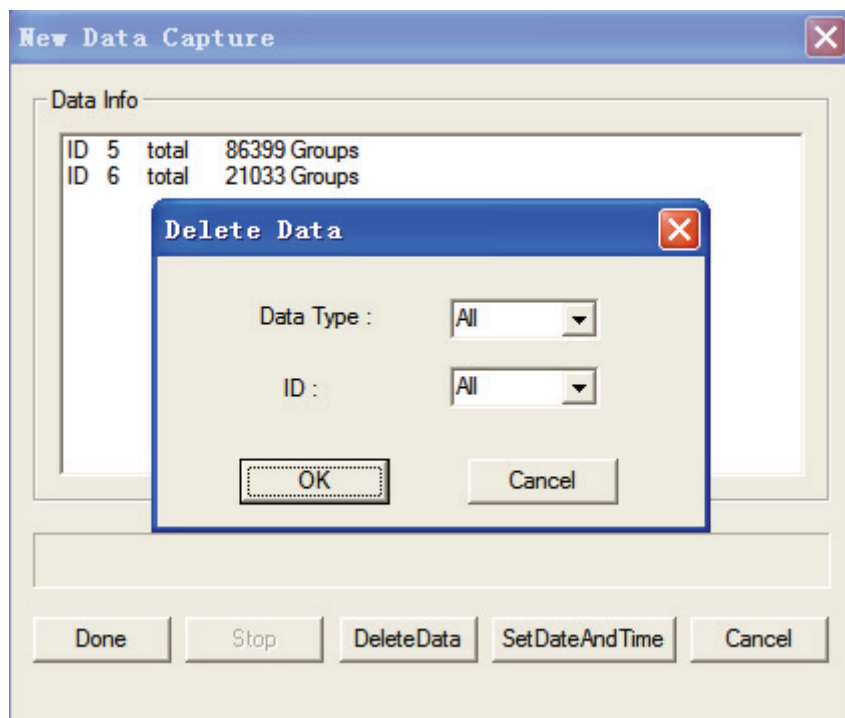
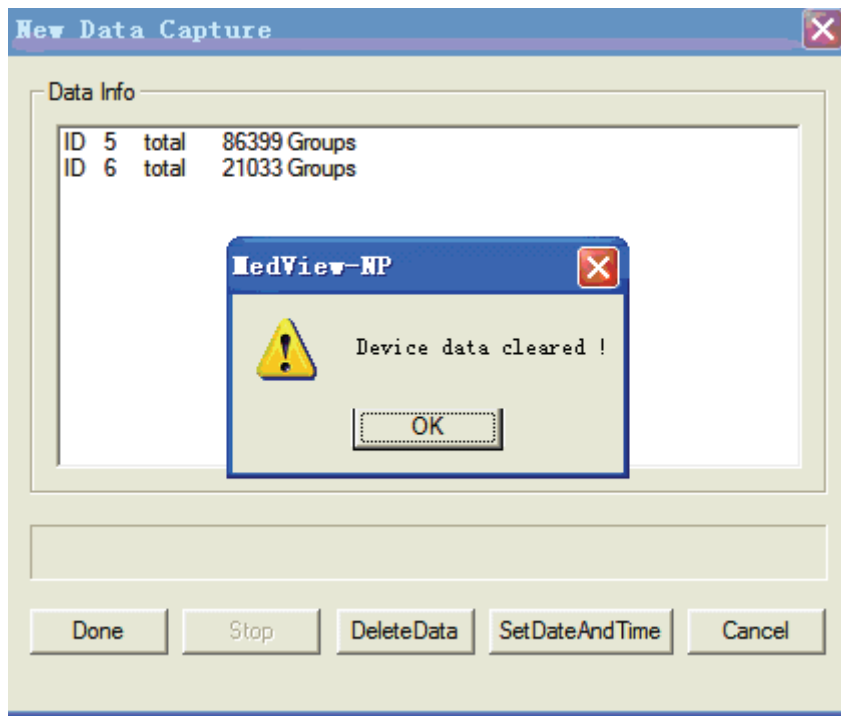

Figure 3-7
Figure 3-8 Click “OK” button
(1) Stop: During data transmission, click “Stop” button, the data transmission will stop.
(2) Delete Data: Click “DeleteData”, the following figure will appear, as shown in Figure 3-7. Select the “Data Type” and “ID” from their drop-down lists, and then click the “ok” button to confirm. The figure 3-8 will appear.